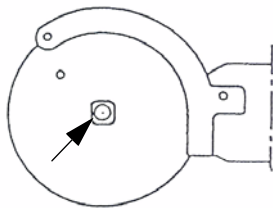

Figure 4: Fitting the saw blade
- Replace the saw blade. Place the new saw blade onto the square drive (see Fig. 4).